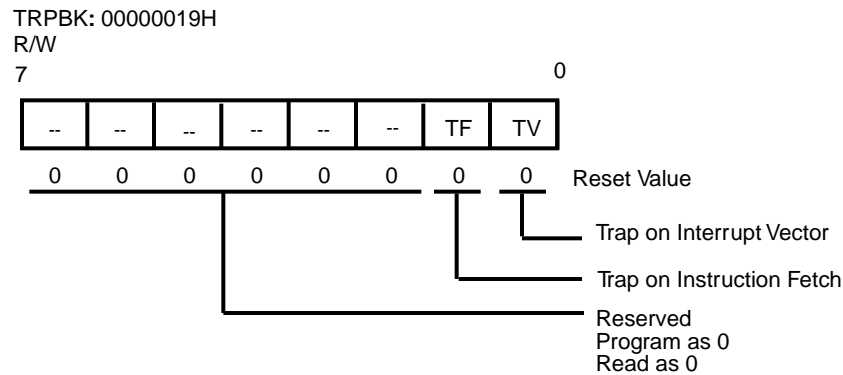

**Figure 26. Assigned Vectors Base Register**
**AB15-AB9** (*Assigned Vectors Base*). The Interrupt Register Extension, Iz, together with AB15-AB9, define the base address of the assigned interrupt vectors table in memory space (Figure 26).